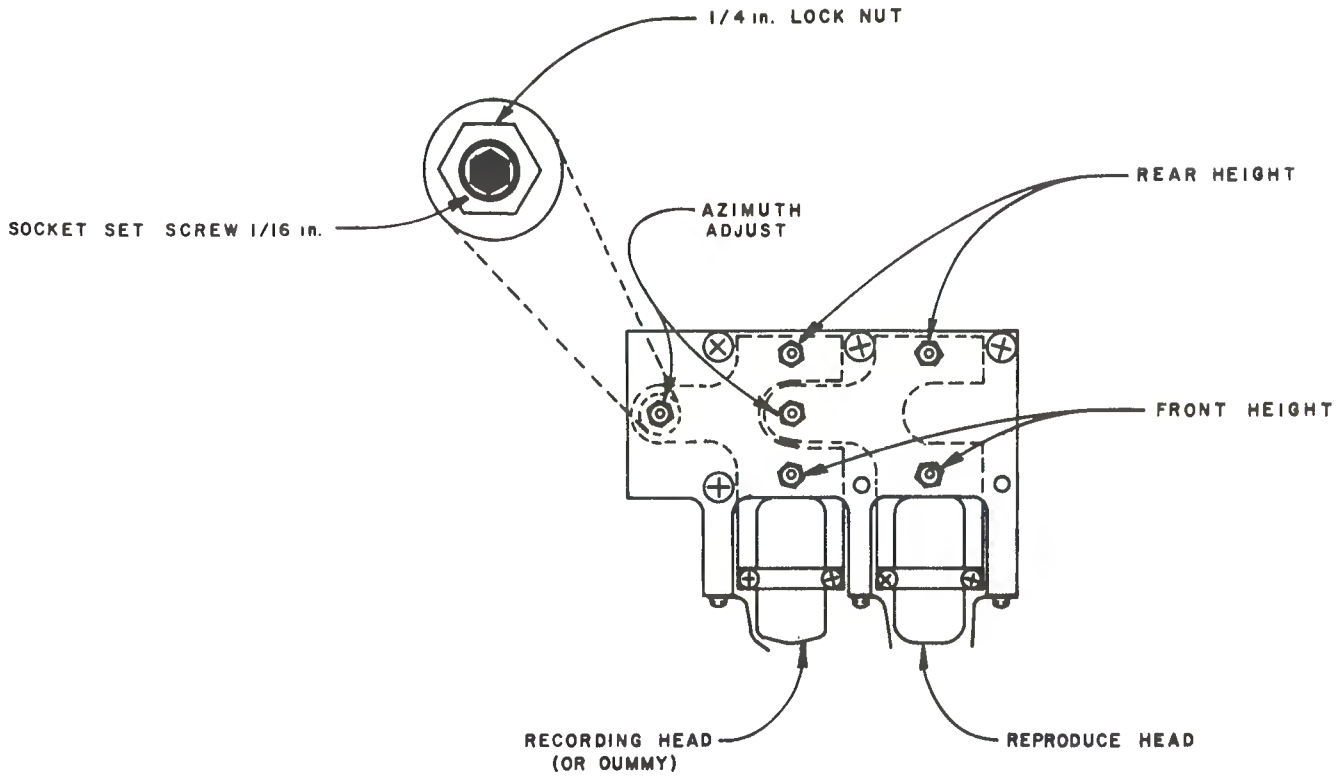

Figure 3-12
The adjustment procedure outlined below should be followed in positioning both the reproducing and recording heads. Only height and zenith adjustments are required for a "dummy" head. See Figure 3-12 for the location of the adjustment screws.
- c. Adjust the reproduce head azimuth set screw (refer to Figure 3-12 for location) to produce maximum output level.
- d. Start the recorder and adjust the azimuth set screw on the record head to produce maximum output level. See Figure 3-12.